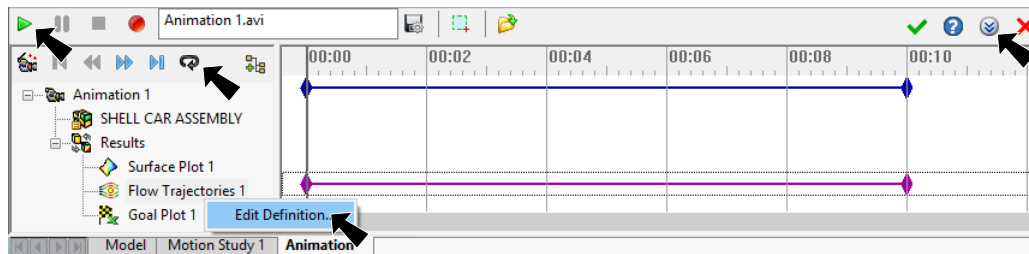

Fig. 31
Step 3. At the bottom right of the display in the animation control panel, click **Expand**  to expand the panel, Fig. 31.
Step 4. Click **Play**  in animation control panel, Fig. 31.
Step 5. **Right click Flow Trajectories 1** in the Animation tree and click **Edit Definition**, Fig. 31.
Step 7. Click **Loop**  and **Play**  in animation control panel, Fig. 31.